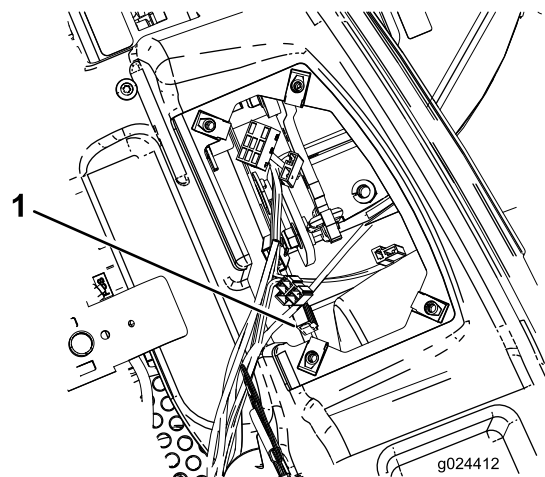

**Figure 43**
**Note:** The fuses are located on right hand console next to the seat (Figure 43).
4. Align a new fuse with the slot in the fuse block (Figure 43).
5. Push the fuse into the fuse block until the fuse is seated (Figure 43).